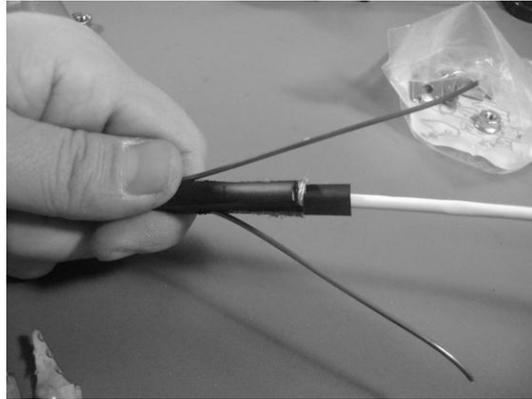

Figure 3 – Insert the plastic guard.
2.4 Trim the plastic guard as required to fit under the armor and insert the plastic guard between the armor and the central core tube (Figure 3).